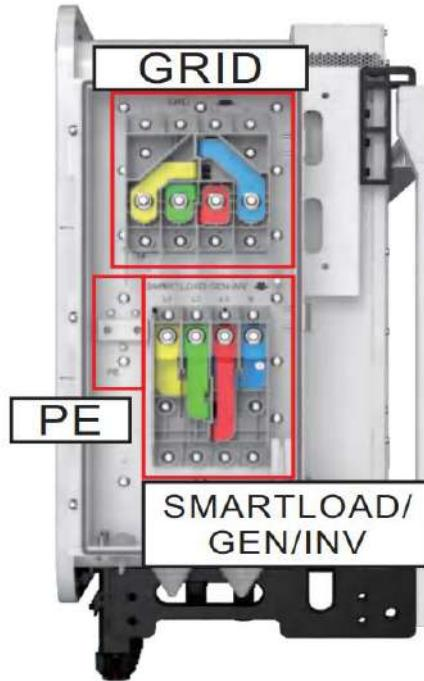

Figure 5-18 Connection for Power Grid
- About local grid connection with inverter. Please refer to Figure 5-18 for the wiring procedure: